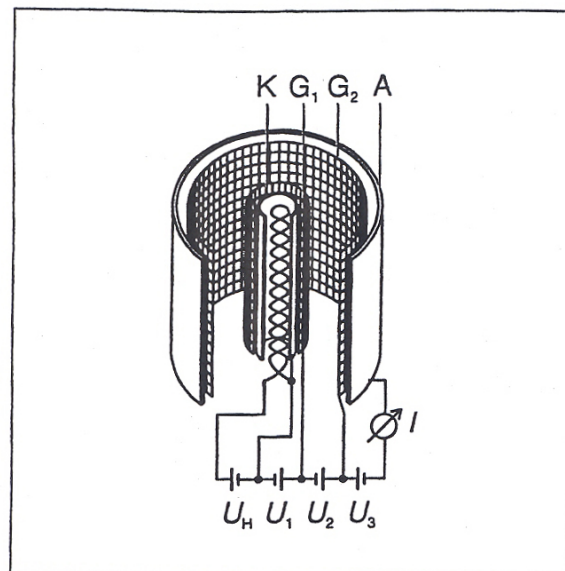

Figure 1: Schematic diagram of the mercury Franck-Hertz tube
The Franck-Hertz tube has cylindrical geometry. See Fig. 1. A cathode (K) is indirectly heated by a filament. The filament is heated by the voltage  $U_H$ . Close to the cathode is the control grid  $G_1$  which is kept a few volts positive with respect to the cathode by the voltage  $U_1$ . The magnitude of the electron current through the tube is largely but not completely controlled by  $U_1$ . At a relatively larger distance is the accelerating grid  $G_2$ . The voltage between  $G_1$  and  $G_2$  is  $U_2$ . With  $U_1$  fixed, the electron energy is varied by changing  $U_2$ . The voltage  $U_2$  has a range of 0-30 V, with  $G_2$  positive with respect to  $G_1$ . A short distance outside  $G_2$  is the collector or anode (A). The current to the anode is (I). The voltage between  $G_2$  and A is  $U_3$ . This is a retarding voltage of a few volts.